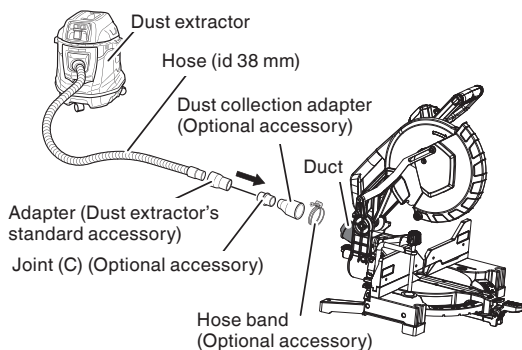

Fig. 36
10. Connecting the dust extractor (Sold separately) (Fig. 36)
Connection is done by pressing in the direction of the arrow. (Fig. 36)